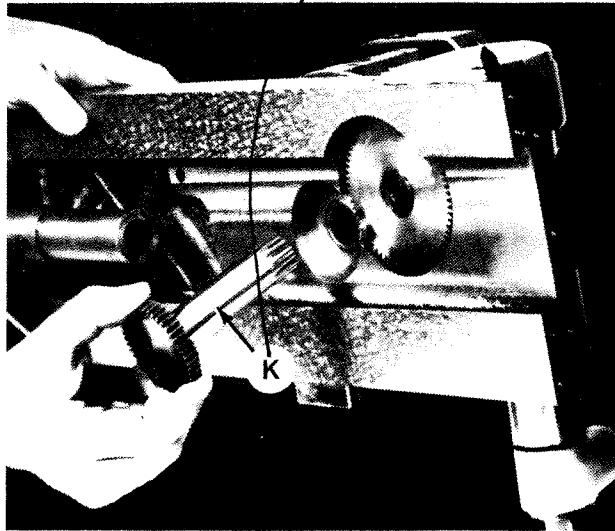

Figure 2.16 - Turret Clutch Removal
11. Remove clutch assembly "K", Figure 2.16, from the bottom of the cross slide.
10. Replace clutch assembly "K", Figure 2.16, in the turret.